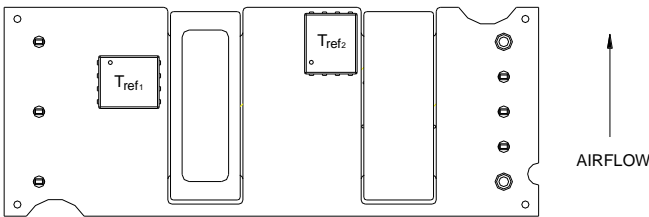
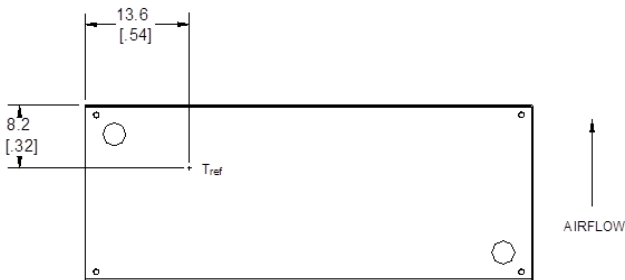

Figure 13. T_{ref} Temperature Measurement Locations for Open Frame Module.
Figure 14. T_{ref} Temperature Measurement Location for Module with Heatplate.
To provide protection under certain fault conditions, the unit is equipped with a thermal shutdown circuit. The unit will shutdown if the thermal reference points, T_{ref} , exceed 135 $^{\circ}C$ (Figure 13, typical) or 120 $^{\circ}C$ (Figure 14, typical) respectively, but the thermal shutdown is not intended as a guarantee that the unit will survive temperatures beyond its rating. The module will automatically restart upon cool-down to a safe temperature.
The thermal reference points, T_{ref1} , and T_{ref2} used in the specifications for open frame modules are shown in Figure 13. For reliable operation these temperatures should not exceed 124 °C & 121 °C respectively
The thermal reference point, T_{ref} , used in the specifications for modules with heatplate is shown in Figure 14. For reliable operation this temperature should not exceed 98°C.